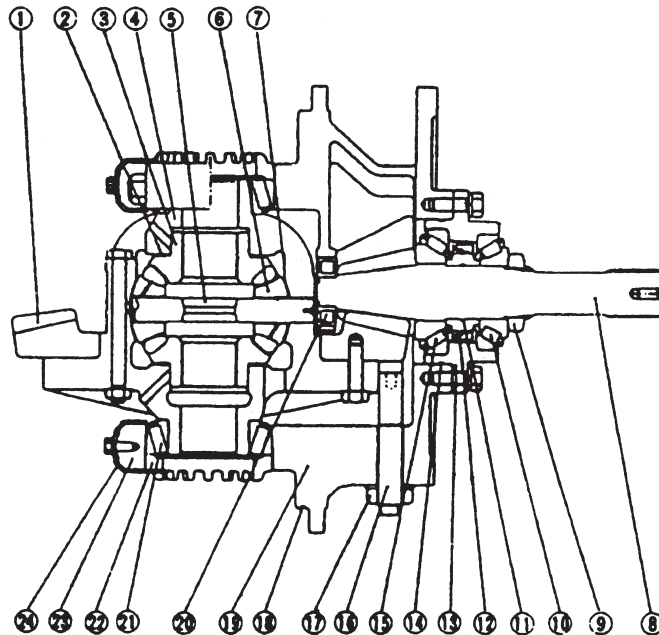

Fig. 3-7 Differential
3.7 Differential(See Fig. 3-7)